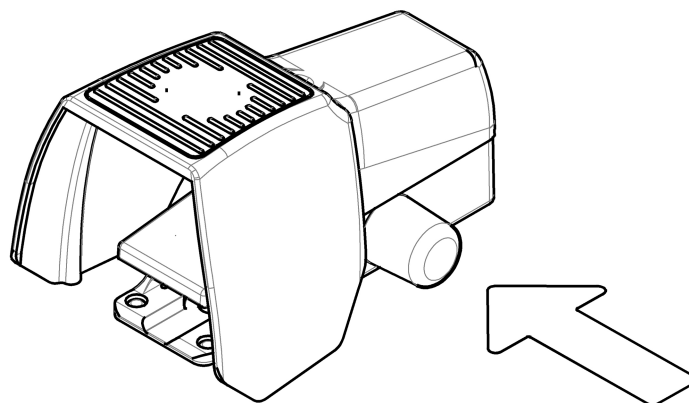

Fig. 4: Releasing the foot-operated switch
- If the emergency stop was activated via the foot-operated switch: release the foot-operated switch by pressing the blue silicone cover at the side (see fig. 4).